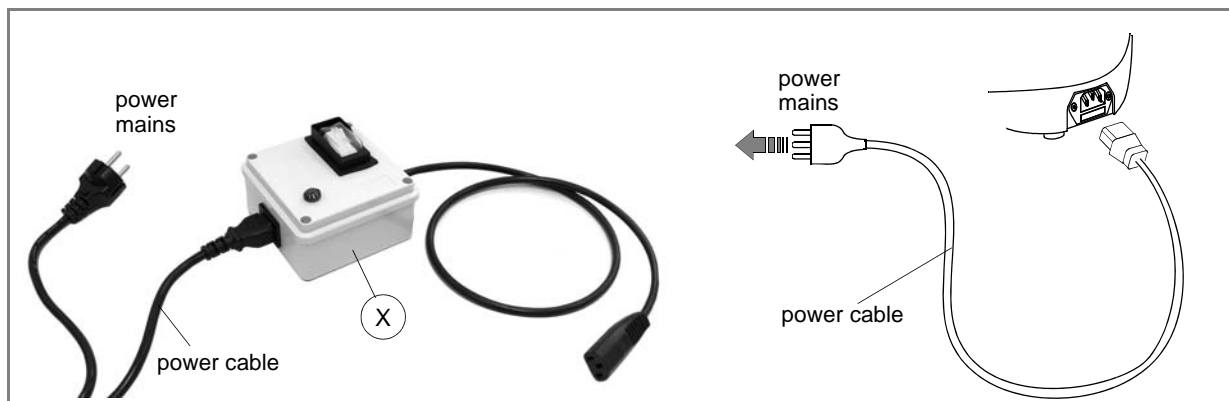

Fig. 7
first connect the safety device (X) to the key-cutting machine and the power cable then connect the free end of the power cable to the power mains (Fig. 7).
connect the key-cutting machine and the power cable then connect the free end of the power cable to the power mains (Fig. 7).